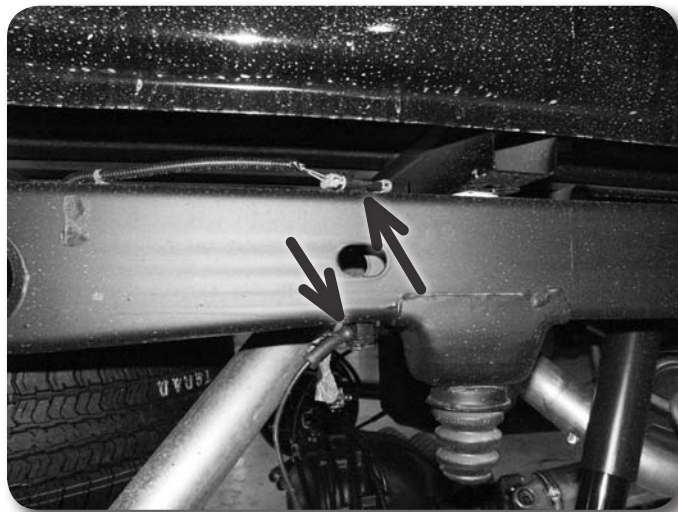

Figure 43
5. Remove the ABS lines from the retaining clip on the bottom of each frame rail. Also disconnect the ABS line connector from the top of the frame rail **Figure 43**.